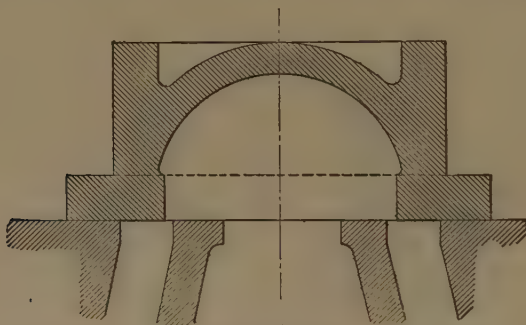

Fig. 138. Slide Valve with Exhaust Clearance.
A. The reverse of inside lap; an excess of such width, to give the steam port greater opening at stroke commencement, permit early cut-off, increase compression, and aid in filling the cylinder clearance space. (See Fig. 138.)